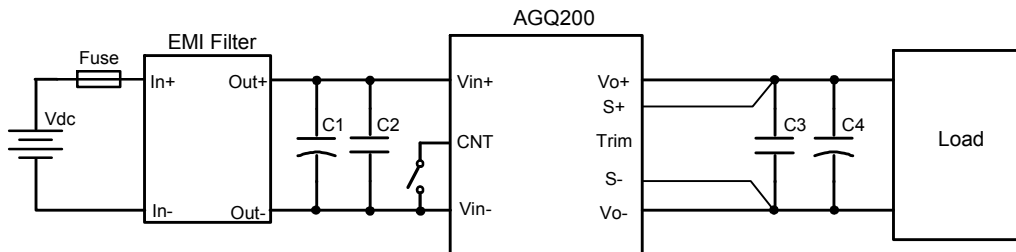

Figure 11 Typical application
Figure 5 Dynamic response for 25% load step (25% ~ 50% ~ 25%) and 0.1A/ μ s slew rate, (2ms/div), see Figure 11 for test configuration; CH1-output voltage (20mV/div); CH2-output current (20A/div)
Figure 6 Dynamic response for 25% load step (50% ~ 75% ~ 50%) and 1A/ μ s slew rate, (2ms/div), see Figure 11 for test configuration; CH1-output voltage (50mV/div); CH2-output current (20A/div)
- C1 ~ C4: See Figure 11